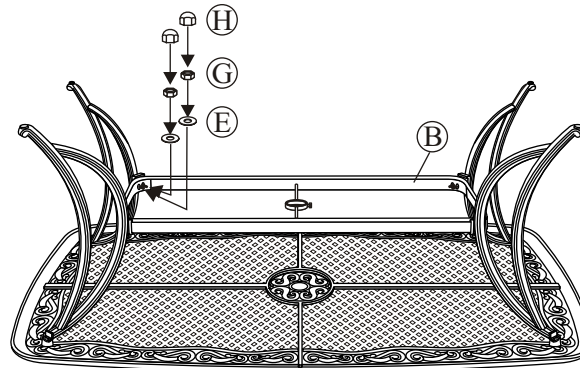

Fig.2
Step 3: Attach a leg to the leg connector bracket by carefully guiding the bolts already in place on the table legs (each leg has two bolts) through the holes in the leg connector bracket. Add a washer and a nut to the end of each bolt as shown in Fig.2. **Hand tighten only. Do not tighten completely.** Repeat on the other three legs.